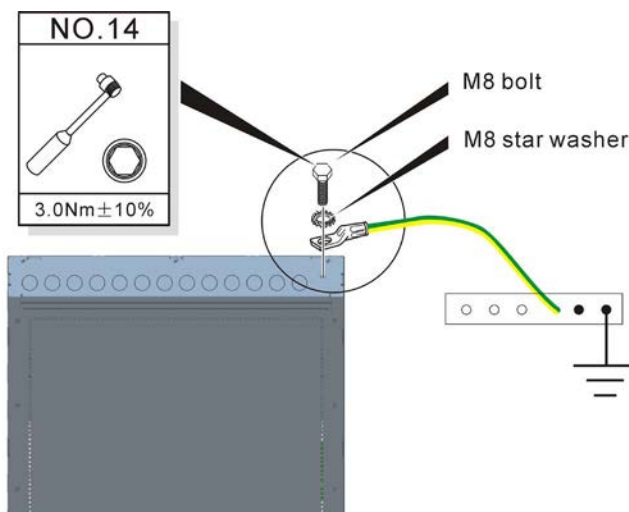

Figure 4-3 Cabinet Grounding Connection
6. Connect the grounding cable with a minimum cross sectional area of 16mm² between the earth grounding point at the top-rear of the cabinet and the Main Earth Terminal (MET). See Figure 4-3.